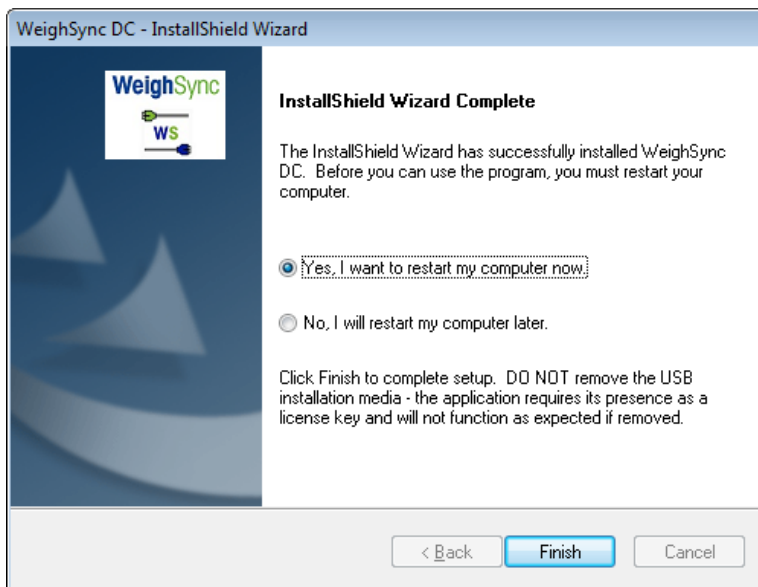

Figure 1-8: Installation Complete
9. Once the installation is complete, a final message will be presented (Figure 1-8).